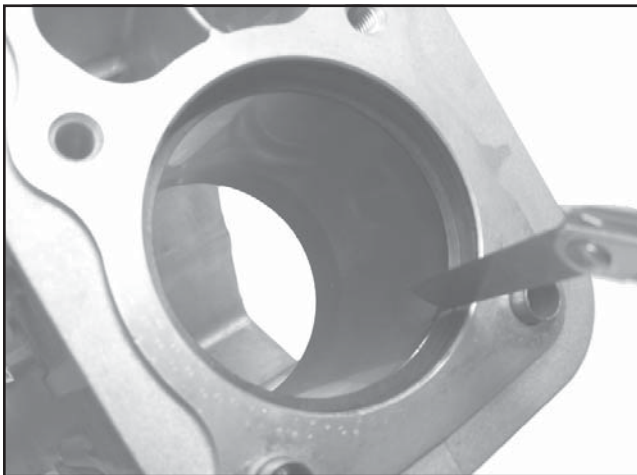

Figure 10-13. Measuring Piston Ring End Gap.
4. Before installing the new rings on the piston, place the top two rings, each in turn, in its running area in the cylinder bore and check the end gap. See Figure 10-13. Compare the ring gap to the measurements in Section 1, **Specifications and Tolerances**.